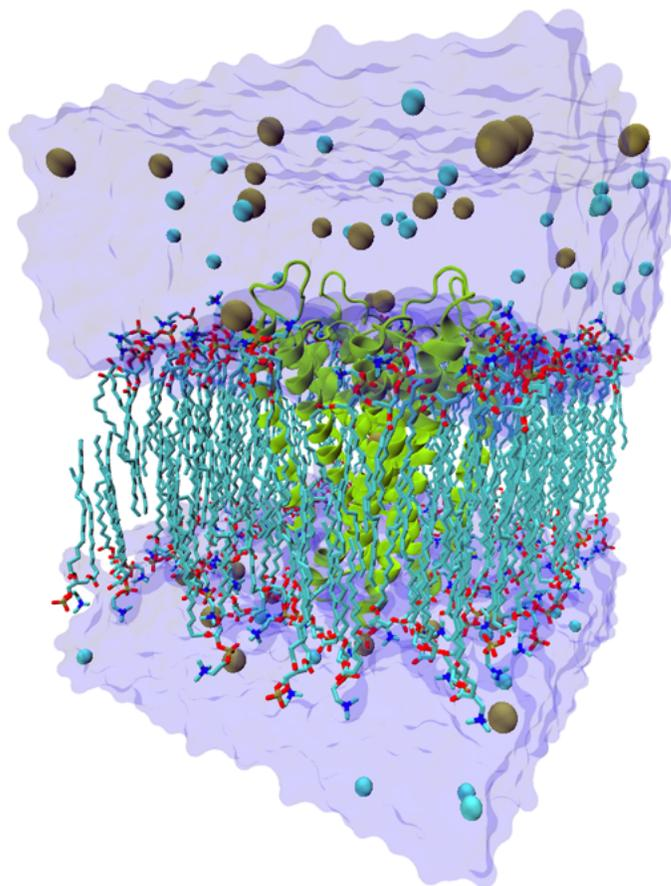

Figure 10: Final simulation system including the KcsA channel, a POPC membrane, water, and ions.
- 8 Load the output files of autoionize (*kcsa_popcwi.psf* and *kcsa_popcwi.pdb*) into VMD and check that the ions are really there and that the system is neutral (Fig. 10).